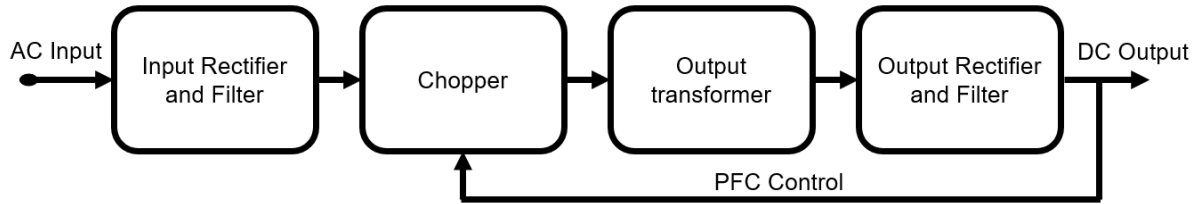

Figure 3: Switched-Mode AC/DC Power Supply Block Diagram
In switching AC power supplies, the input voltage is no longer reduced; rather, it is rectified and filtered at the input. Then the DC voltage goes through a chopper, which converts the voltage into a high-frequency pulse train. Finally, the wave goes through another rectifier and filter, which converts it back to direct current (DC) and eliminates any remaining alternating current (AC) component that may be present before reaching the output (see Figure 3).